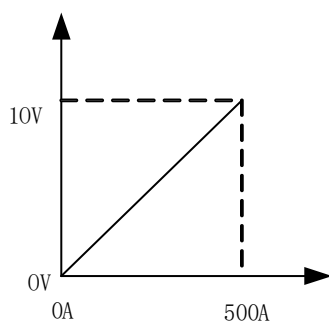

Figure 4-17 Corresponding relationship of given currents
1. The corresponding relationship of given currents is shown in Figure 4-17;